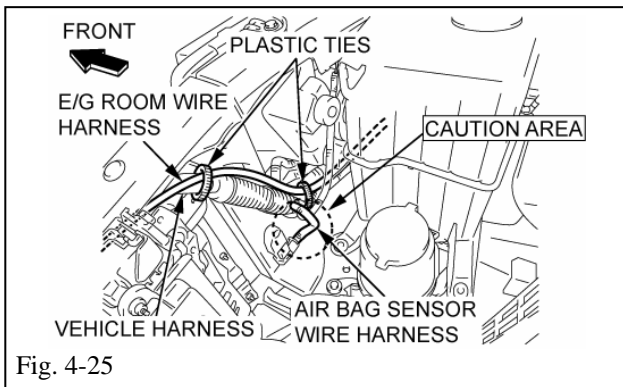

Fig. 4-25
-  **CAUTION:** Do not secure E/G R W to Air Bag Sensor wire harness near the washer tank. (Fig. 4-25)